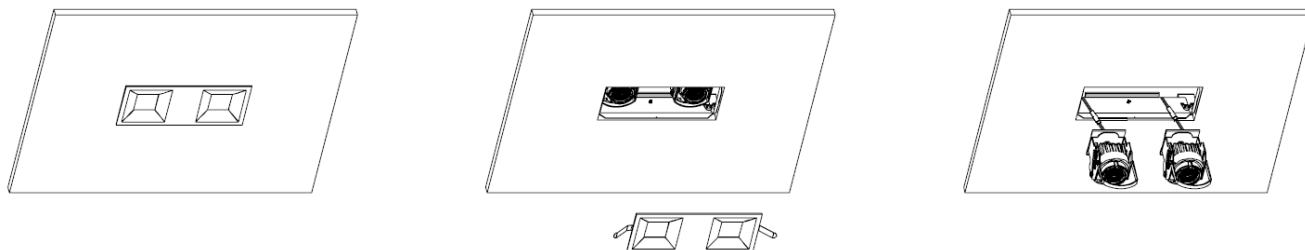

FIG 21
2. Using the handle, carefully pull and loosen the light module from the housing.(See FIG 21)
3. Unplug the light module wire harness using the quick connector. (See FIG 21)